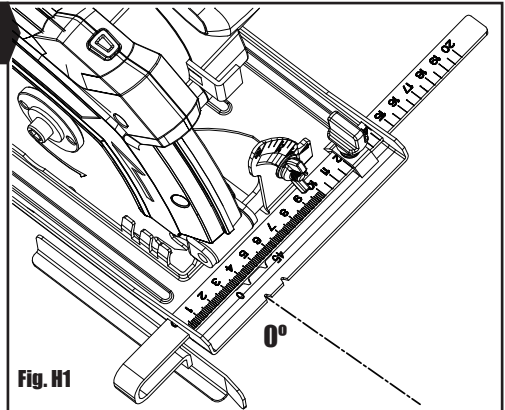

Fig. H1
4. CUTTING GUIDE (SEE FIG. H1, H2)